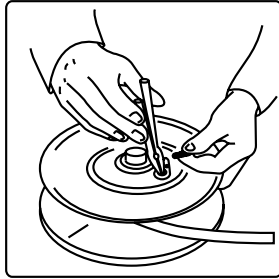
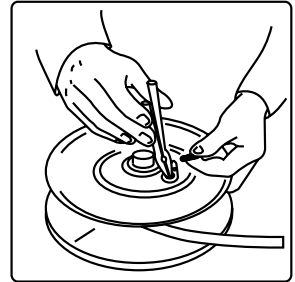

fig. 4d
fig. 5d
4. Turn the drum upside down and remove the latch and the latch spring (part nr 500110 and 500111, figure 4d); Turn the drum upside down and take the spring hub out of the drum (part nr 500115 and 500116, fig 5d).